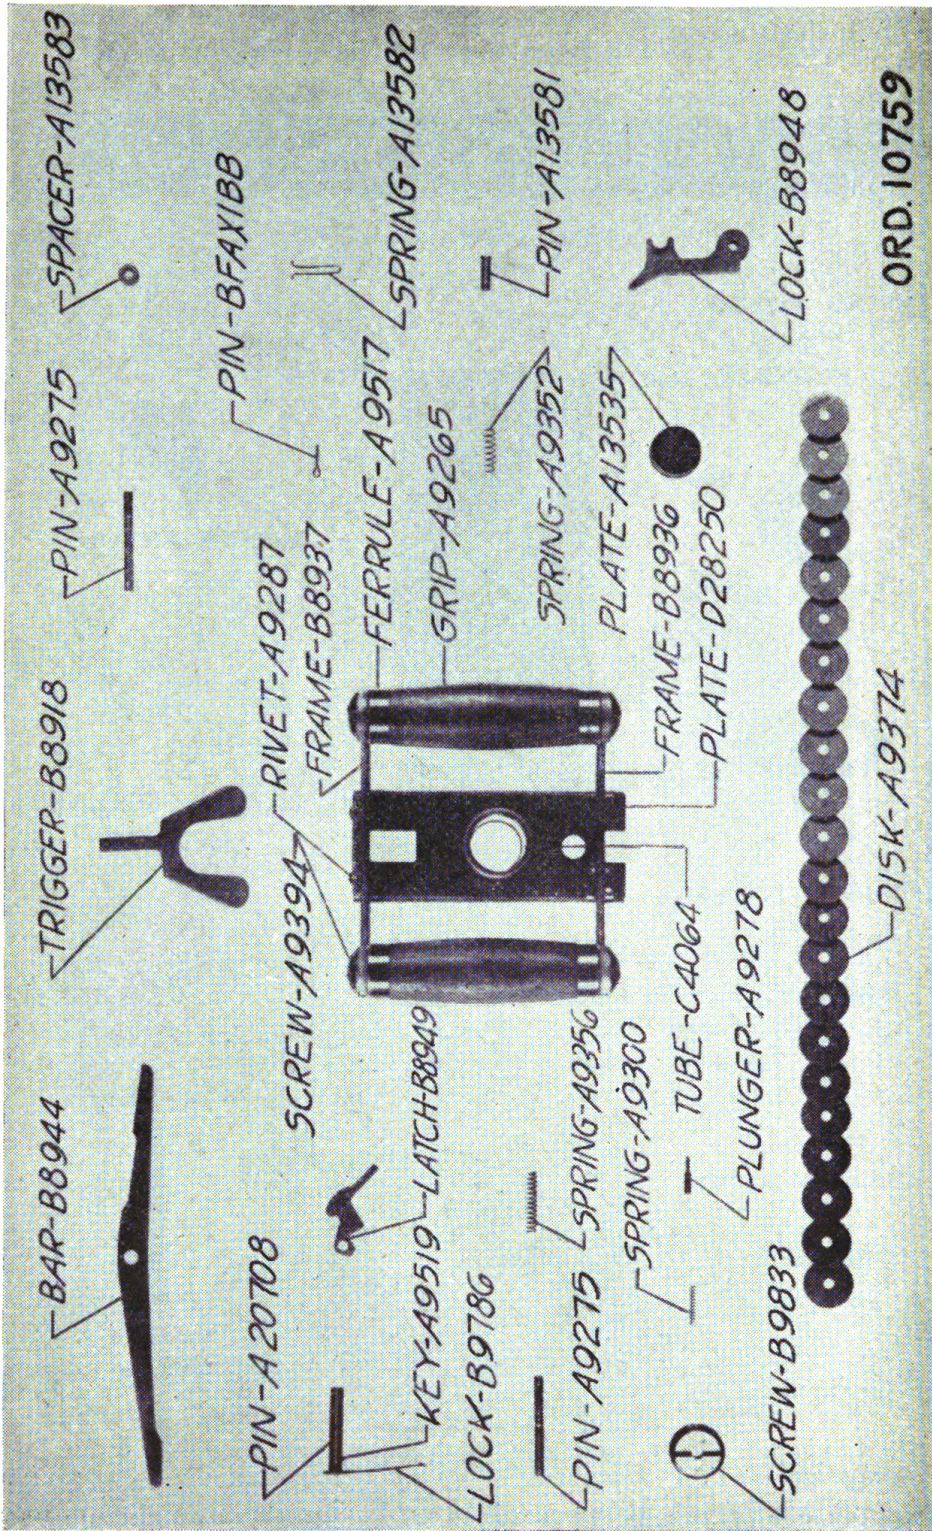

FIGURE 7.—Spade grip backplate (flexible type).
(2) *Horizontal buffer (fixed and flexible type)* (fig. 7).—(a) Drive out backplate latch pin, being careful that backplate latch spring does not fly out upon removal of backplate latch.